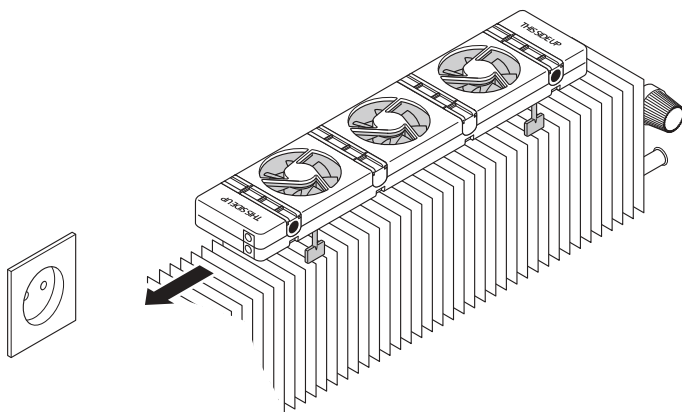

Fig. 9 - Position the **SpeedComfort** (A) on the convector.
1. Attach the **feet** (C) by pushing them into the **slots** (2) of the **SpeedComfort** (A).
2. Make sure that the **SpeedComfort** (A) faces upwards and that the **female connectors** (1) point towards the wall socket (see fig. 9).
3. Place the **SpeedComfort** (A) on top of the convector and allow space between the convector sides and the **SpeedComfort** (A) to reduce noise (see fig. 9). The SpeedComfort can also be placed on the ground below the convector if space allows.
4. If the convector block is made of magnetic material, the **temperature sensor** (E) can be easily positioned on it with its magnets. The temperature sensor can also be clamped between two plates of the convector block to ensure good heat transfer. The sensor can be attached to a copper pipe or any other non-magnetic location using the provided Velcro.